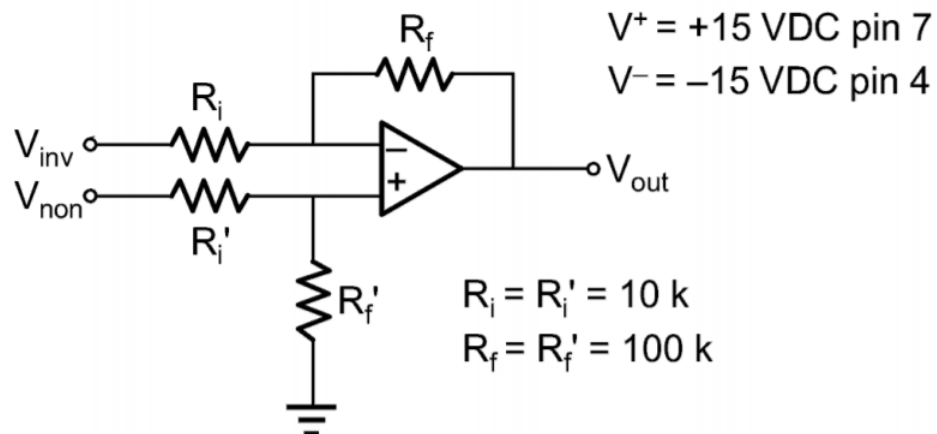

Figure 6.5.1
3. Assemble the circuit of Figure 6.5.1. Try to get the R_i/R_f ratio as close as possible to the R_i'/R_f' ratio, even if you have to mix and match several resistors.